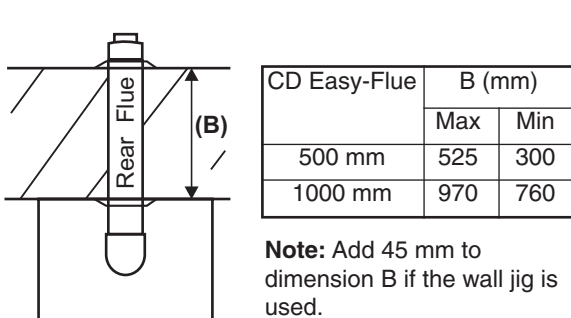

Fig. 14
4.6 FIT THE FLUE - Figs. 14 and 15
- When the flue length required is more than the maximum stated in Section 4.6, paragraph 1, refer to the table below and Figs 14 and 15.